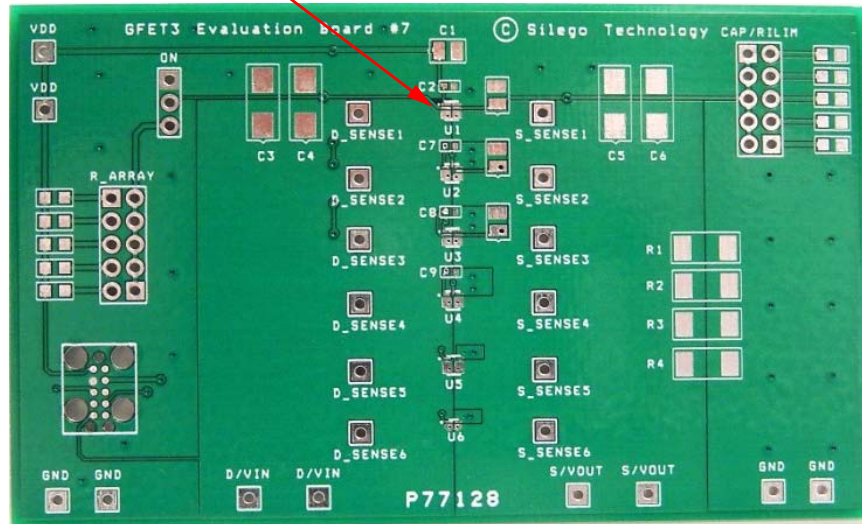

Figure 1. SLG59M1448V Evaluation Board.
2. Since the D and S pins dissipate most of the heat generated during high-load current operation, it is highly recommended to make power traces as short, direct, and wide as possible. A good practice is to make power traces with absolute minimum widths of 15 mils (0.381 mm) per Ampere. A representative layout, shown in Figure 1 , illustrates proper techniques for heat to transfer as efficiently as possible out of the device;
A GreenFET Evaluation Board for SLG59M1448V is designed according to the statements above and is illustrated on Figure 1 . Please note that evaluation board has D\_Sense and S\_Sense pads. They cannot carry high currents and dedicated only for RDSON evaluation.